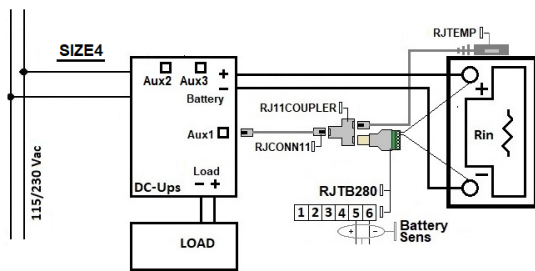

Fig.5
- Battery Sense connection YES; only for the device Size4 (Fig.5)
The Size 4 and Size 5 devices can operate either with or without the battery sense connections. If the battery sense cables are correctly connected as in Fig.5 and 5.1, the device automatically detects them and uses them for the battery internal resistance measurements. In such case the battery cables resistance measurement information (HR40102) is neither needed nor used. This configuration is the one which ensures the maximum measurement accuracy because it is not influenced by the battery cables resistance. If, on the contrary, the battery sense cables are not wired or are not correctly wired (e.g. wired with reverse polarity), the Size 4 device will make use of the battery cables resistance (direct write to HR40102 in units of 0.1mohm or use the mentioned wizard) to compute the battery internal measurement; if no cable resistance is provided (HR40102=0) the device will not carry out the battery internal resistance measurement.